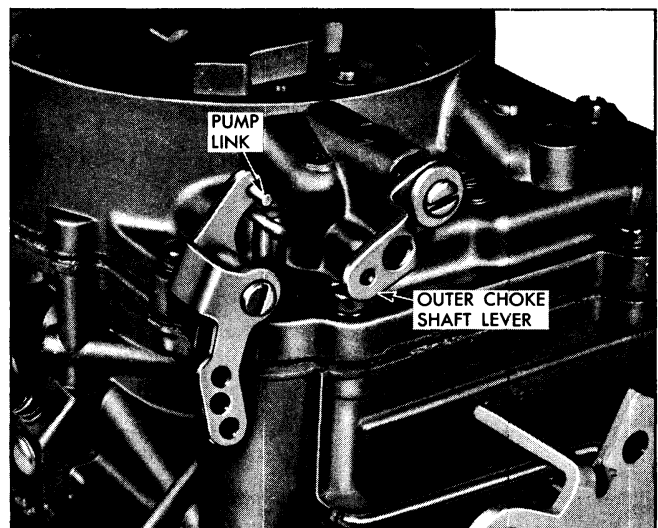

Fig. 6B-93 Pump Link Installed
16. Install choke shaft lever, washer, and screw on end of choke shaft (Fig. 6B-93).